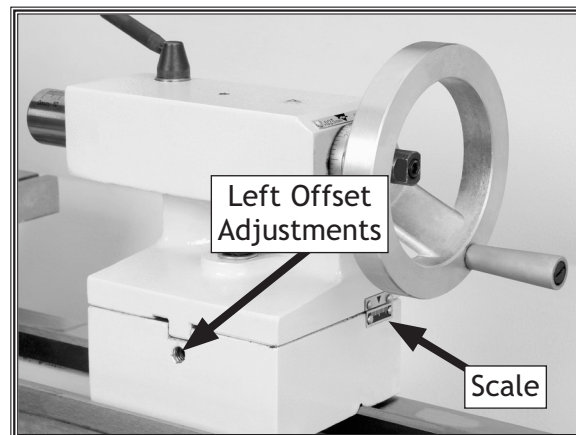

Figure 19. Left offset adjustment.
2. Alternately loosen and tighten the left and right offset adjustment screws until the desired offset is indicated on the scale (see Figure 19).